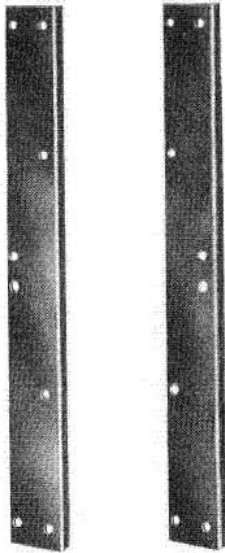

Fig. 31—Auxiliary Leg per ED-95023-70
6.04 The auxiliary leg per ED-95023-70† (Fig. 31) has two extension leg assemblies used to mount the J86731A, List 4 power plant above the 16-type apparatus mounting.